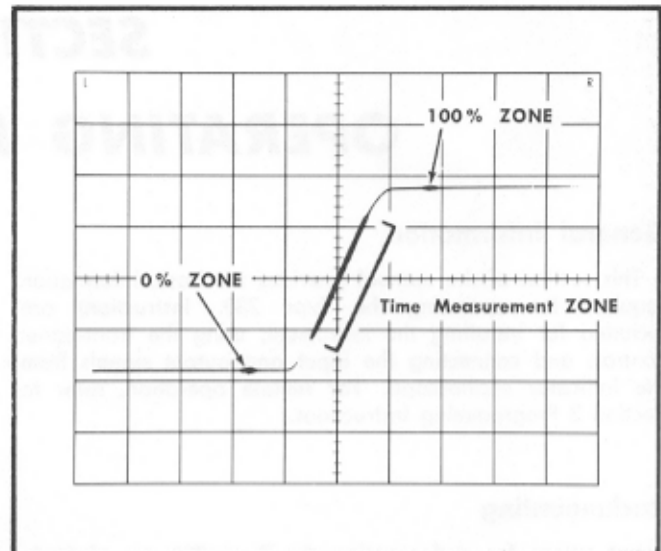

Fig. 2-3. Three types of intensified zones.
3. To convert to a different line voltage, pull out the Voltage Selector switch bar (Fig. 2-3), turn it around 180° and plug it into the opposite set of holes. The Voltage Selector switch bar will be in the upper position for 115-volt operation and in the lower position for 230-volt operation.
ZONES. The Type 230 produces three intensified zones on Channel A and/or Channel B trace of the Type 568 Oscilloscope; the 0% zone, the 100% zone and the time measurement zone. Each zone appears as a brightened portion of the trace (Fig. 2-3).